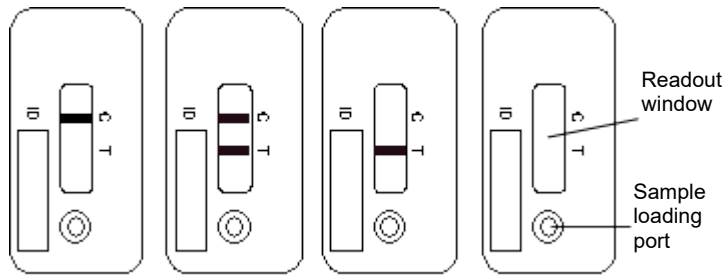

Figure 1A Figure 1B Figure 1C Figure 1D
- For a valid test result, the control line (C) must be visible in all cases (see figure 1A and figure 1B). It is used as a functional test control only and cannot be used for the interpretation of the test line (T). If the test line (T) is not detectable after 15 minutes of incubation time (figure 1A), the concentration of adalimumab present in the serum sample is below the detection limit. If a test line (T) is detectable after 15 minutes of incubation time (figure 1B), the concentration present in the serum sample is calculated by the Quantum Blue® Reader.